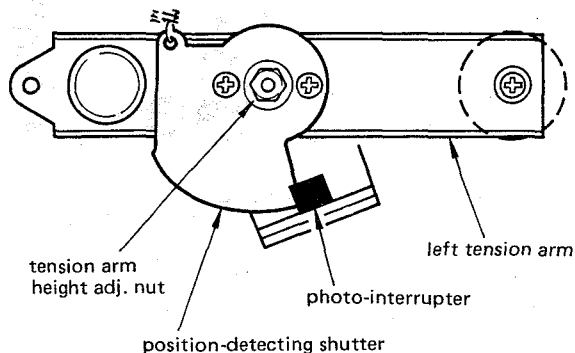

Fig. 2-11
3. Stop left (right) guide roller's rotation by hand. Adjust by turning the left (right) tension arm height adjusting nut (refer to Fig. 2-11) so that the tape moves in the center of the guide roller.